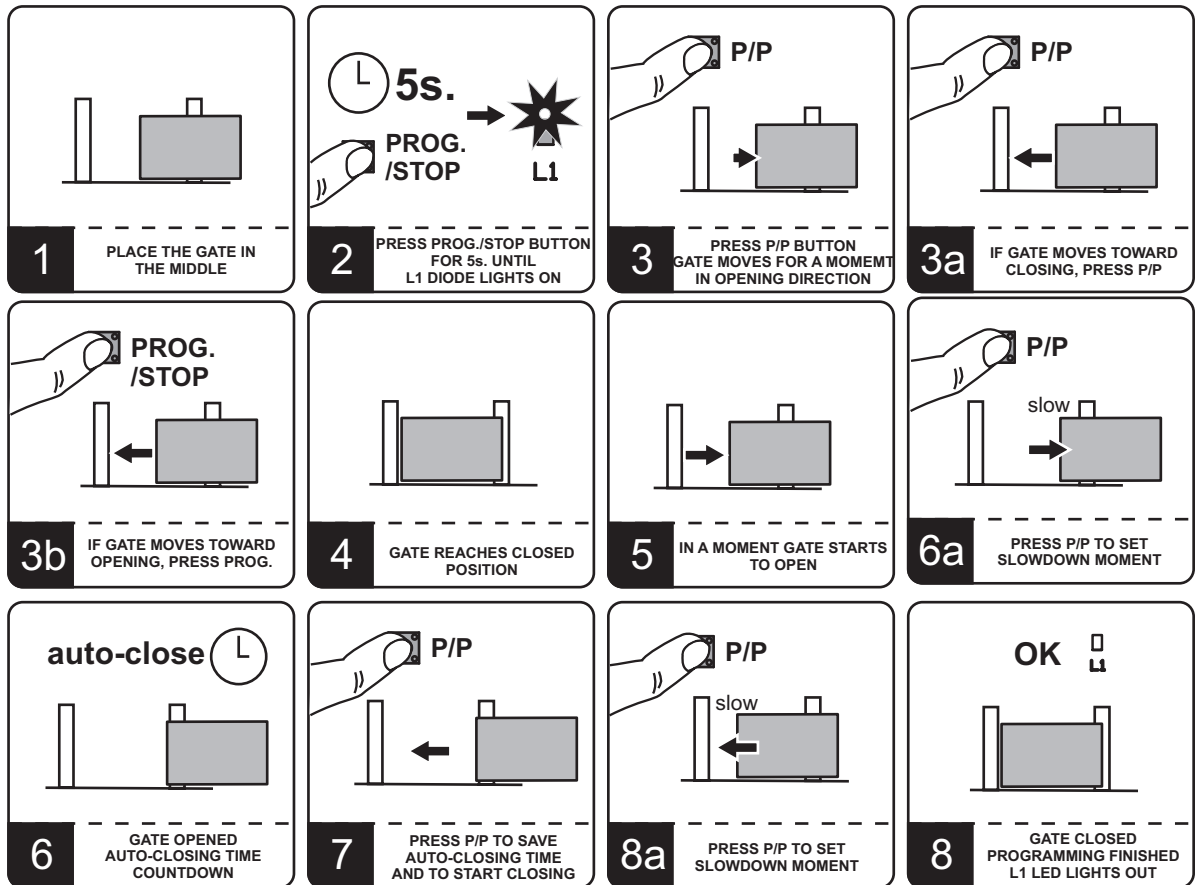

Fig.5. Programming in simple mode (p.1-8 without 6a and 8a) and extended (1-8 with p. 6a, 8a).
It is simple and fast form of setting times of closing, opening, auto-closing. Slowing times before total opening and closing are set automatically. Programme according to following steps (fig. 5):
- manually place the gate in the middle of the way (1, fig.5).
- press PROG/STOP button and hold it pressed for about 3 seconds, until LD1 diode does not light constantly (2, fig.5). **Driver is in the programming mode.**
- Press P/P button. The gate will start moving for few seconds (3, fig.5).
- If the gate moves on the direction towards closing press P/P again (3a, fig.5). If it moves towards opening press PROG/STOP (3b, fig.5)
- the gate reaches closed position (4, fig.5) and it starts opening again automatically (5, fig.5), stopping at the outermost opening position (6, fig.5). **The driver starts remembering the auto-closing time (see tab.1).**
- when the demanded pause time is complete, press P/P button. The motor will start closing (7, fig.5), finishing at the outermost closing position. LD1 diode turns off, the end of programming procedure (8, fig.5)
This procedure requires a little bit more involvement in the process the learning from the installer, than in the case of the simple mode. The installer is able to set additionally the times of slowing down at opening and closing according to personal needs. In order to set different zones of slowing down, act in the following way (fig. 5):
- Press P/P button. The gate will start moving for few seconds (3, fig.5)
- the gate reaches closed position (4, fig.5) and it starts opening again automatically (5, fig.5).
- while opening, press P/P button in the position of required slowing down (6a, fig.5). The gate stops for a moment and then continues and finishes the opening.
- after stopping at the outermost opening position(6, fig.5) the driver starts remembering the auto-closing time (see tab.1.).
- when the demanded pause time is complete, press P/P button (7, fig.5). The motor will start closing.
- while closing the gate press P/P button in the position of required slowing down moment (8a, fig.5).
- the gate finishes the closing move at the outermost closing position. LD1 diode turns off, the end of programming procedure (8, fig.5).